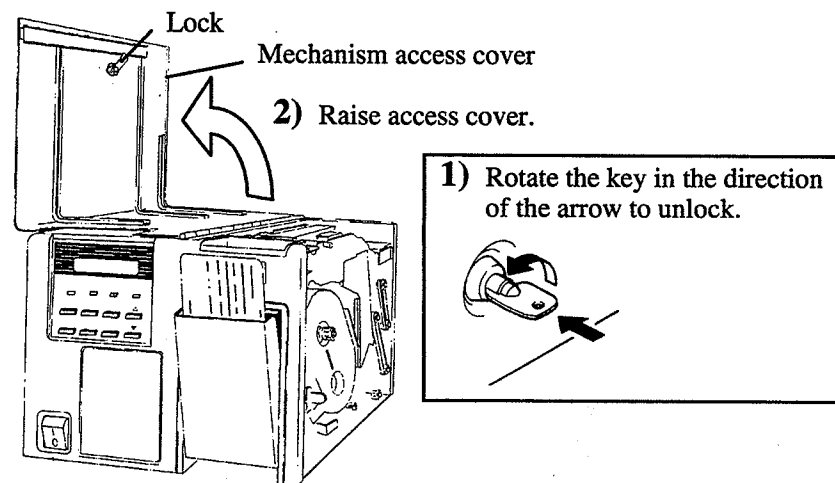

FIGURE 2-2. OPENING THE PRINTER.
2. Raise the access cover to a full upright position as shown in figure 2-2.